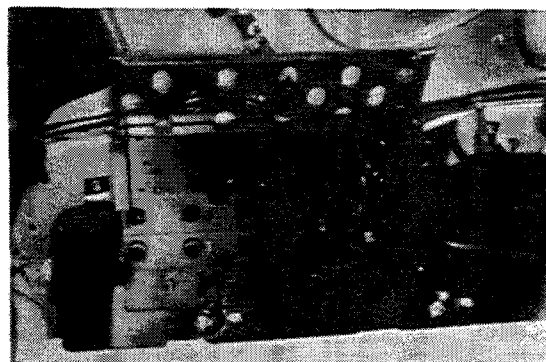

Figure 5
7. Install bracket assembly to left trunk floor. Position bracket mounting holes over three rearmost threaded inserts (Fig. 5).